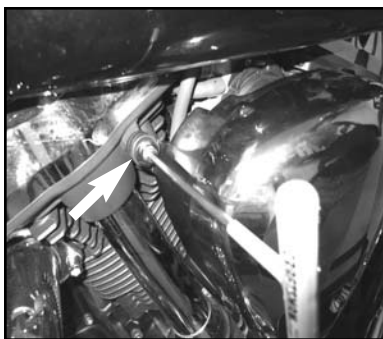

Fig. 1
1. Remove the three bolts holding the air cleaner case. (Fig. 1)